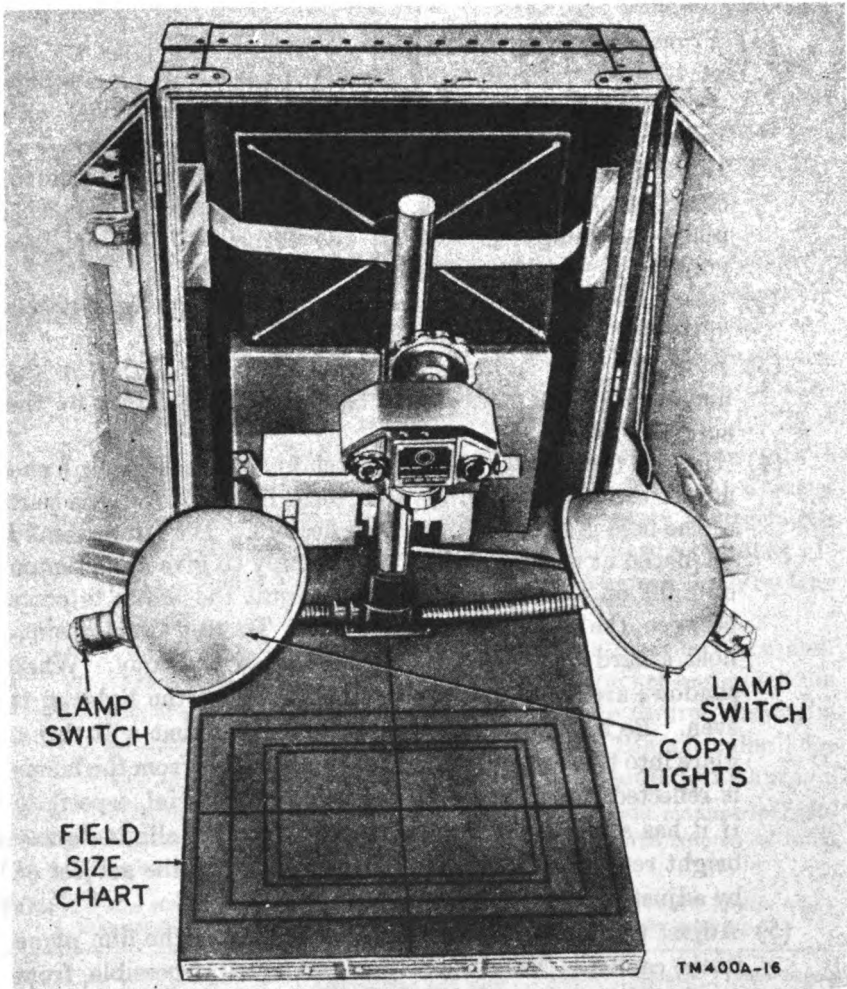

Figure 16. Camera PH-324-A and copy lights set for copying.
- (1) Focusing and composing can be accomplished most efficiently if the original material is laid on the baseboard and correctly centered within the proper area size of the four camera settings shown on the printer baseboard (fig. 16), with the camera pointing down toward it. A wider range of subject distances and camera settings are given in table I. This table may be used for copying with portrait lenses plus 1 and plus 2. The subject distances apply only to Camera PH-324-A and must be measured accurately between the subject and the supplementary lens. Exposures should always be made at a small aperture when a supplementary lens is used.
e. Illumination (fig. 16).
- (1) Proper light distribution and control of reflections are important when illuminating the original material for copying. As a light source, the photoenlarger lamps furnished with the equipment are suitable for black and white copying. Light distribution is much more critical in copying than in other photographic work. When setting up for copying, place the lamps so that all the corners of the original material are equally lighted.
- (2) Screw the two photoenlarger lamps into the copy light sockets of the flexible arms mounted on the baseboard.